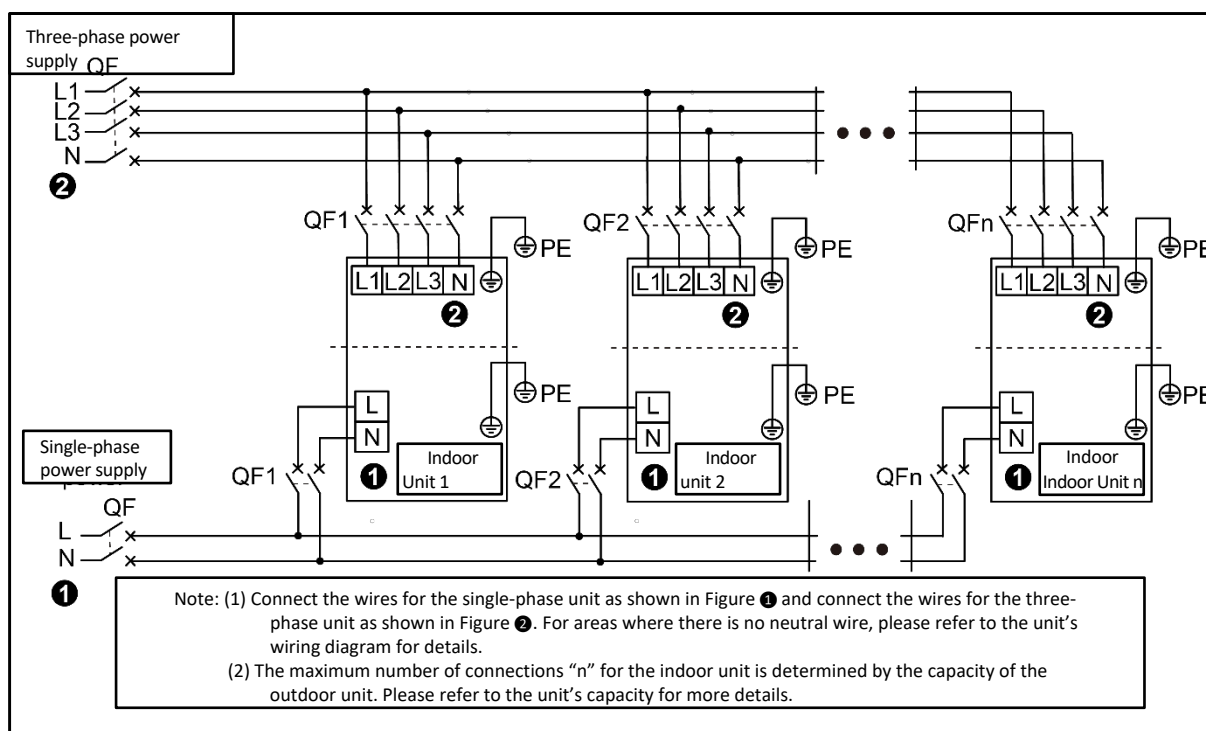
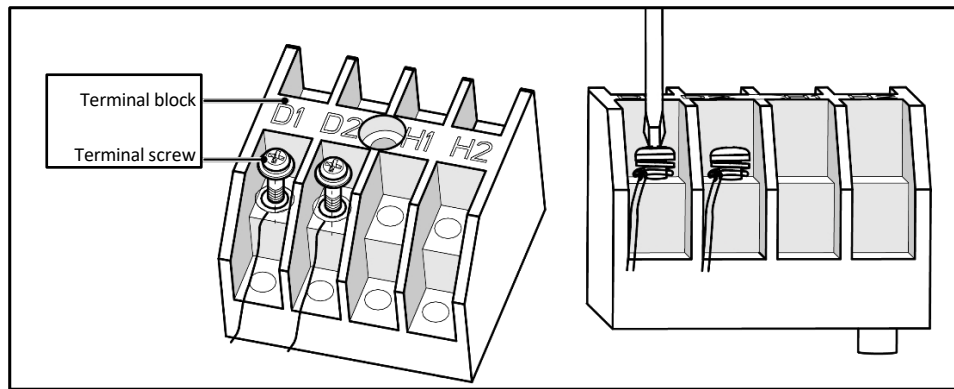

Fig. 5.2
Fig. 5.3.1
- ① Remove the cover from the electrical enclosure.
- ② Feed the power cord through the wiring holes.
- ③ Connect the wires as shown in Fig. 5.2.
- ④ Secure the power cord with a cable tie.
- ① Remove the cover from the electrical box.
- ② Feed the communication wire through the wiring holes.
- ③ Connect the communication wire to terminals D1 and D2 on the 4-bit indoor wiring panel, as shown in Fig. 5.3.1.